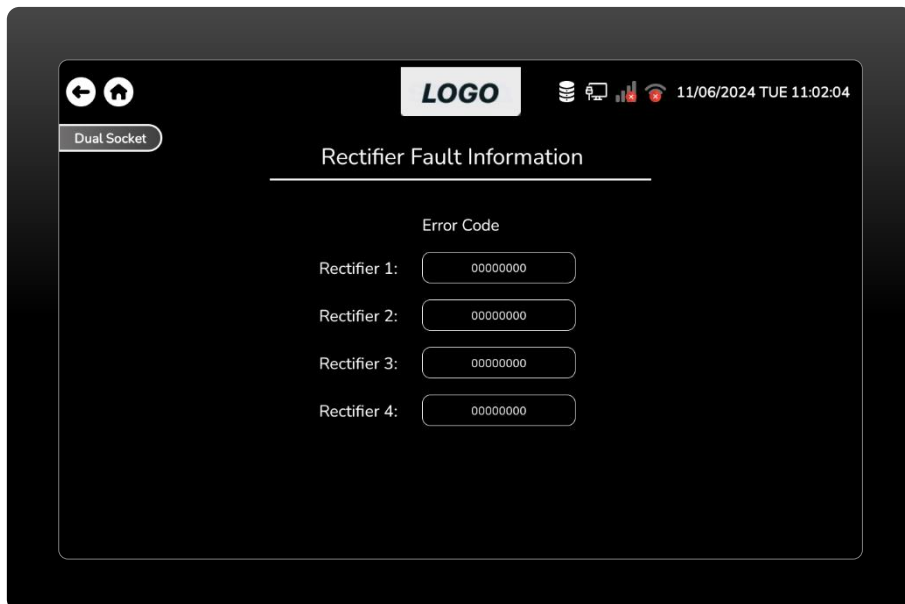

Figure 75 Rectifier Fault Information Screen.
- This is the rectifier fault information screen, where the user can view the error codes of rectifiers. (Figure 75)